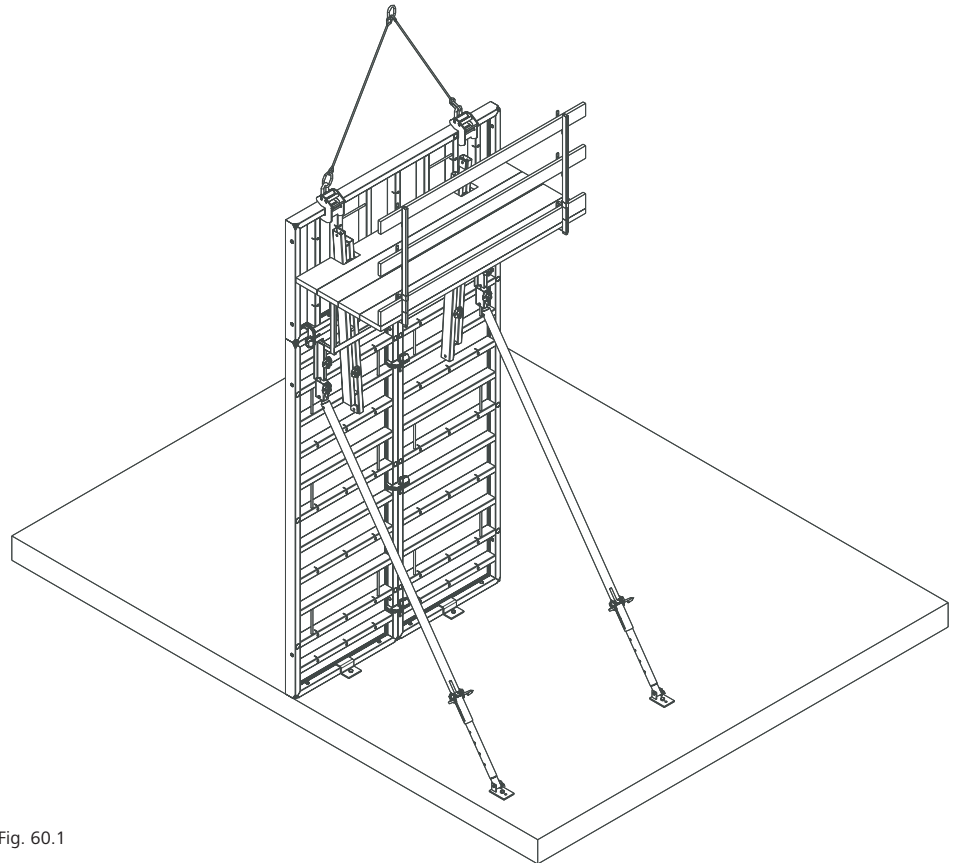

Fig. 60.1
3. Set the gang into position and immediately anchor the bracing foot plates and install and anchor the shoe plates (Fig. 60.1).